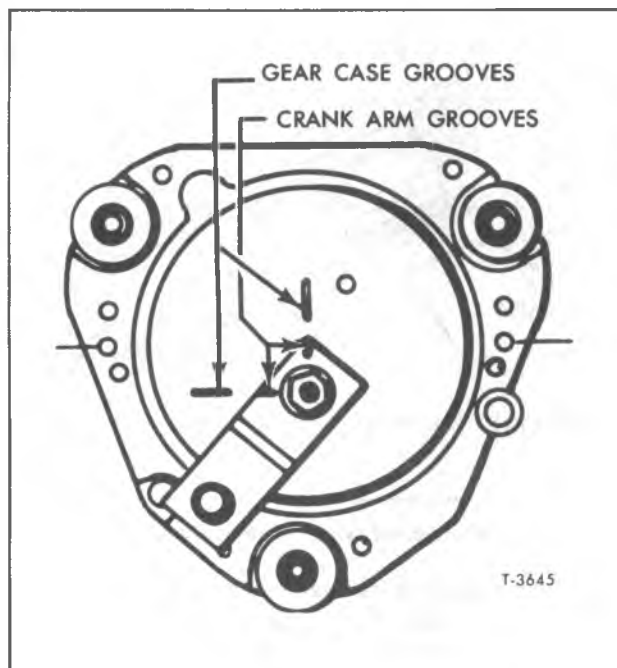

Figure 12—Wiper Crank Arm in Park Position
NOTE: When installing crank arm to gear shaft, place wiper in "PARK" position, rotate the arm so alignment marks match with respective marks on cover as shown in figure 12.
**IMPORTANT:** Before locating the wiper arms on pivot shafts, make sure wiper motor was stopped in the "PARK" position (fig. 12). Operate the motor, then turn switch off and allow it to stop in "PARK" position. If motor is not in "PARK" position and arms are installed, the arm travel may be restricted when motor is started, resulting in a blown fuse. In any case when motor is first started, be prepared to turn wiper switch off in the event wiper arms were installed out of proper sweep position. Reposition arms if necessary.